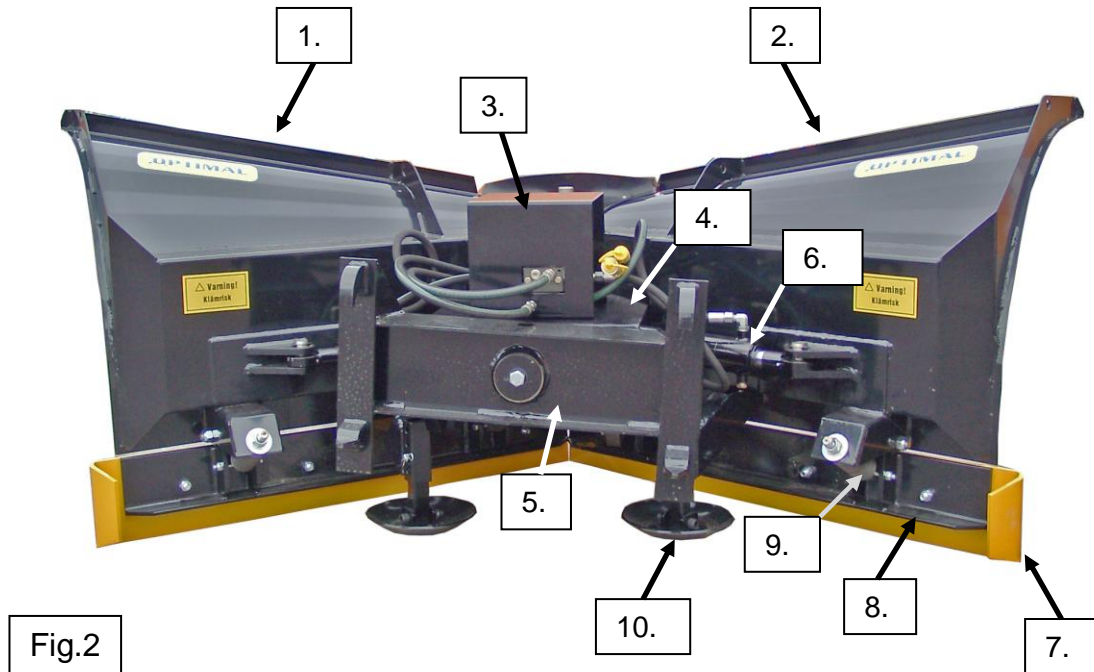

Fig.2
The V-plough is equipped with two skid shoes which can be set to different heights, see figure 2, pos.10. During the season's first ploughing, it is most suitable to set the skid shoes to a lower position in order to avoid unnecessary wear on the scraper steels. After that the skid shoes should be set to the same height as the scraper steels.